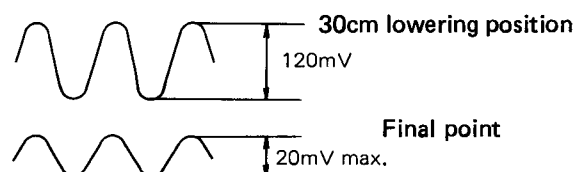

Fig. 9.11 Adjustment Waveform
- Set the tonearm in the position where minimum amplitude was achieved, and readjust VR203 to obtain an amplitude of less than 20mVp-p (approx). (See Fig. 9.11).